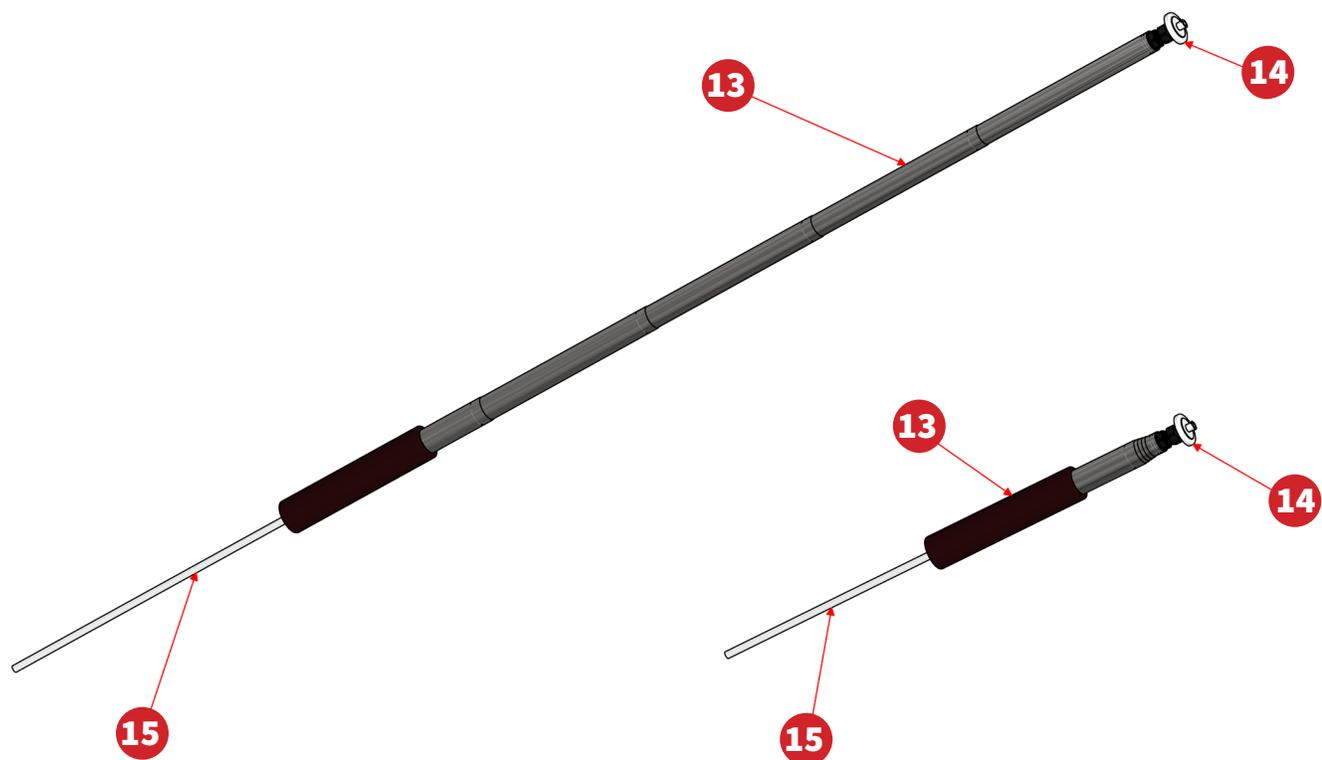

Figure 5: Wand inlet, extended (top) and retracted (bottom)
- A retractable 36-inch (0.9-meter) inlet wand with a flexible 7-foot (2.1-meter) extension tube for safe remote sampling. (See figure 5)